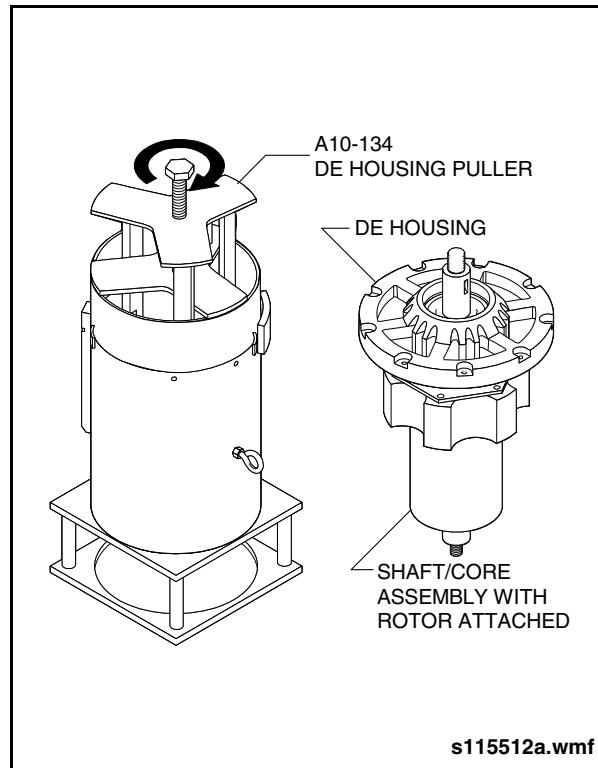

Fig. 9-20: DE Housing Removal
- c. Use DE housing removal tool and engage housing arms. (Item 4 from Special Tools List). Use a wrench to rotate the bolt on the tool clockwise and pull end housing out of shell. The shaft will remain with the housing because the shaft is pressed into the DE bearing. Be careful not to damage stator or field coil when removing DE housing from shell. *See "Fig. 9-20: DE Housing Removal" on page 27.*